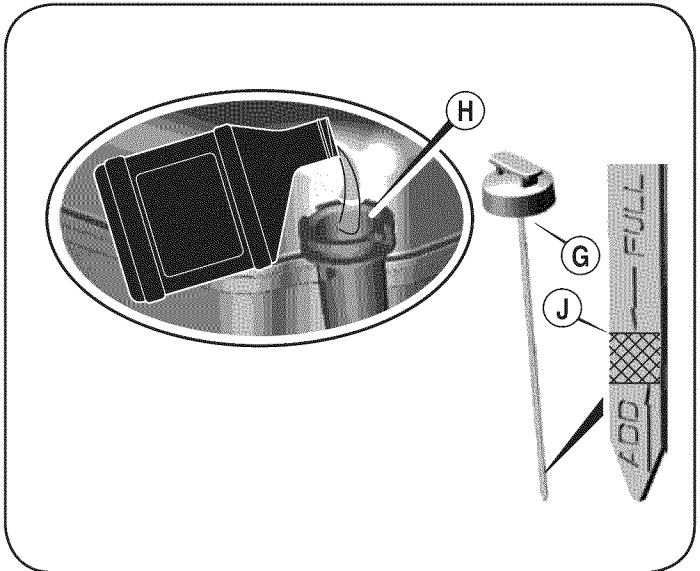

Figure 10
1. Remove oil fill dipstick (G). See Figure 10.
2. With the mower on level ground, empty entire contents of oil bottle provided into the engine oil fill (H).
3. Insert and tighten the oil fill dipstick. Remove it to check the oil level. See Figure 10.
4. If the oil level is near or below the lower limit mark on the dipstick, remove the oil fill dipstick, and fill with the recommended oil to the upper limit mark (J). Do not overfill.